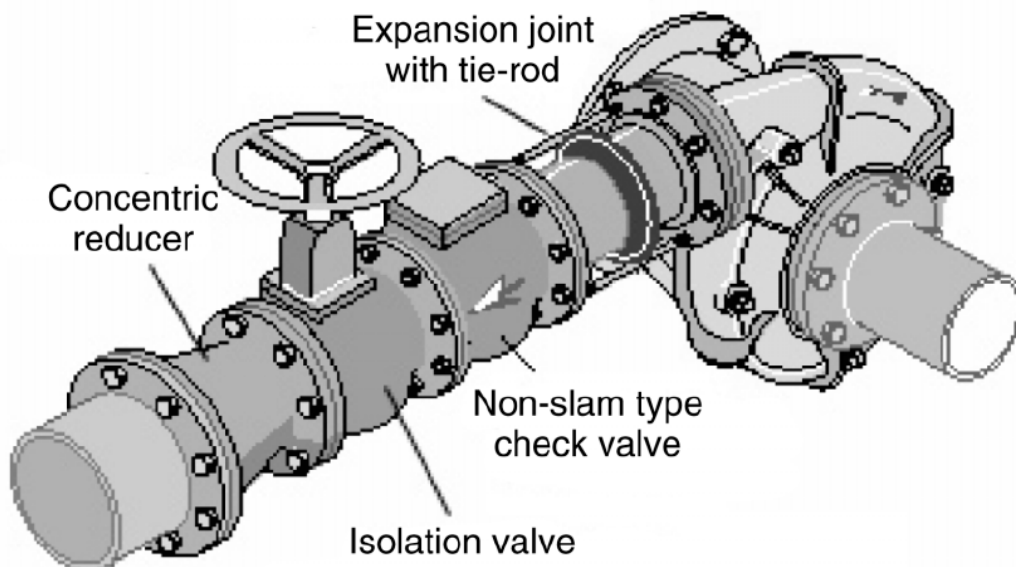

Figure 6.9 – DISCHARGE PIPING
6.12.2 Discharge piping (Figure 6.9)